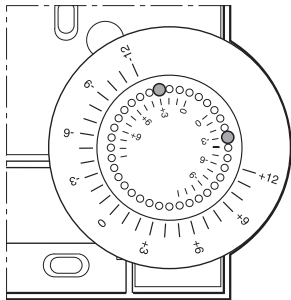

Fig. 6: Limiting the adjustment range
- ▶ Place the two small pins into the holes of the adjustment dials in order to limit the adjustment range (see Fig. 6). Orientate yourself on the basis of the inner scale:
In Fig. 6, the pins are inserted so that the adjustment dial can only be adjusted by $\pm 3\text{ }^{\circ}\text{C}$ around the zero point.